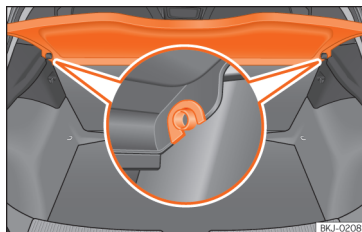

Fig. 137 In the boot: removing and installing the shelf.
- Remove the rear shelf from the side supports >>> **Fig. 137** by pulling it upwards and then take it out.
- Insert the cover horizontally so that the "recess" fits onto the axis of the supports >>> **Fig. 137** and press down until it engages.